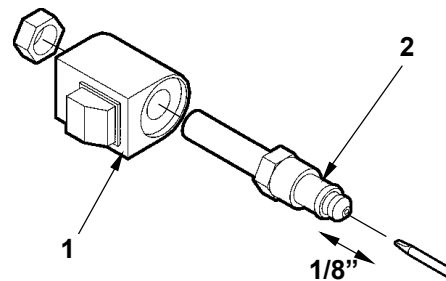

FIG. 36-2
2. Check the Valve Stem by removing the Coil Assembly (**Item 1, FIG. 36-2**). With platform on ground, unscrew the Valve Stem, (**Item 2, FIG. 36-2**) from the Pump. Push on the plunger that is located inside the Valve Stem by inserting a small screwdriver blade in the end. If the Plunger does not move freely (approximately 1/8") replace the Valve Stem. **When re-installing valve stem, torque hex nut to 30 in-lbs.**